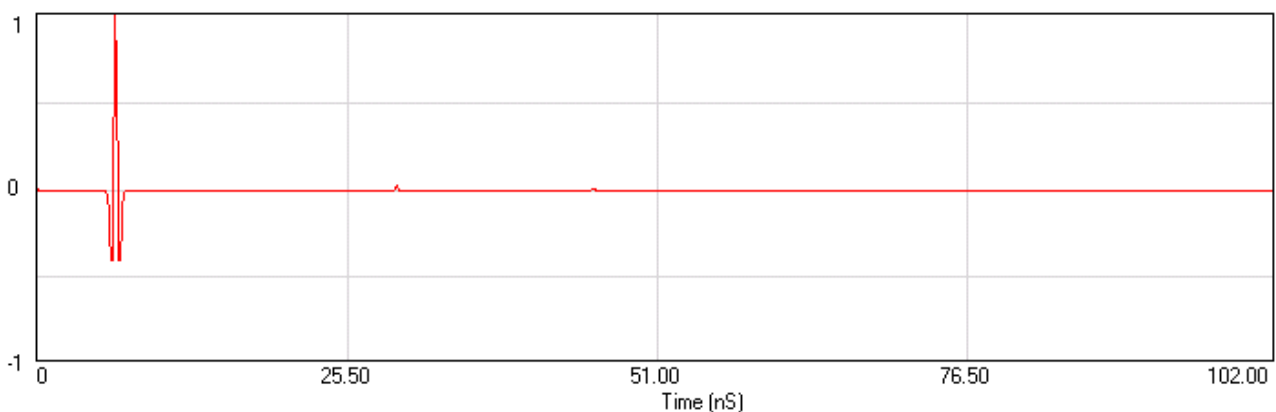

Fig. 6 Simulation of a microwave antenna penetrating a two meters thick layer
3. Press the simulate button and a trace like in figure 6 should appear.